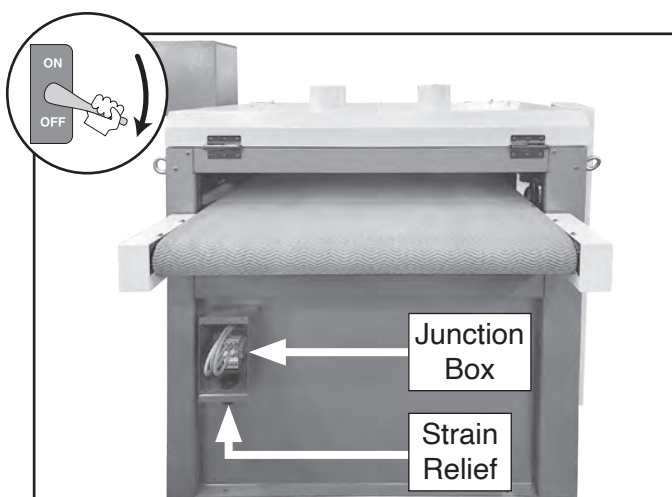

Figure 21. Location of power connection junction box.
2. Remove cover from power connection junction box on rear of frame (see **Figure 21**).